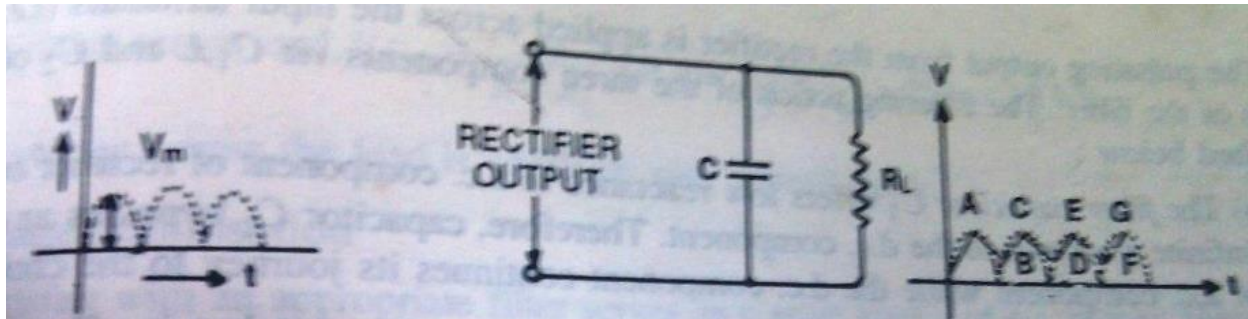

Figure 1.2.13
**Capacitor Filter:** Figure 1.2.13 shows a typical capacitor filter circuit. It consists of a capacitor C placed across the rectifier output in parallel with load  $R_L$ . Pulsating rectifier output is applied across the capacitor. As the rectifier voltage increases, it charges the capacitor and also supplies